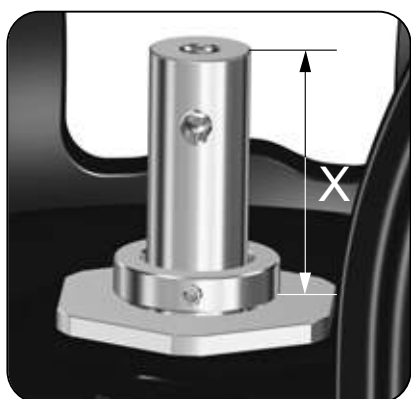

Fig. 7 Height measurement X
15. Install the shaft seal (105) on the shaft (51) and press it home against the pump head cover (2).
17. Check that the height X is maximum 71 mm. See fig. 7.